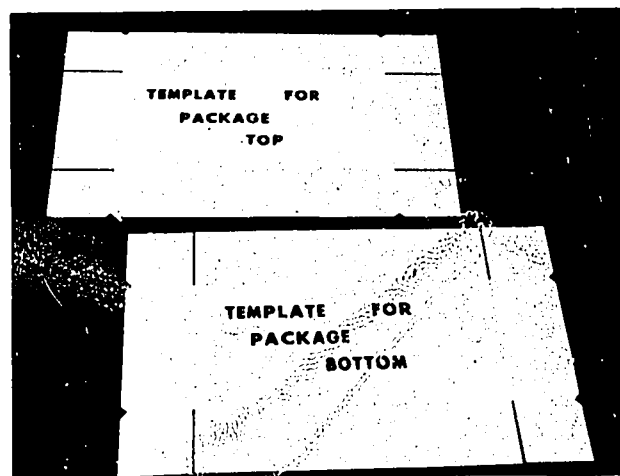

Fig. 85-1. Package Templates
3. Lay out your package tops and bottoms on chipboard, posterboard, or oak tag using a template. Do *not* mix tops and bottoms. See Fig. 85-1. Mark the slits carefully with a pencil. See Fig. 85-3.